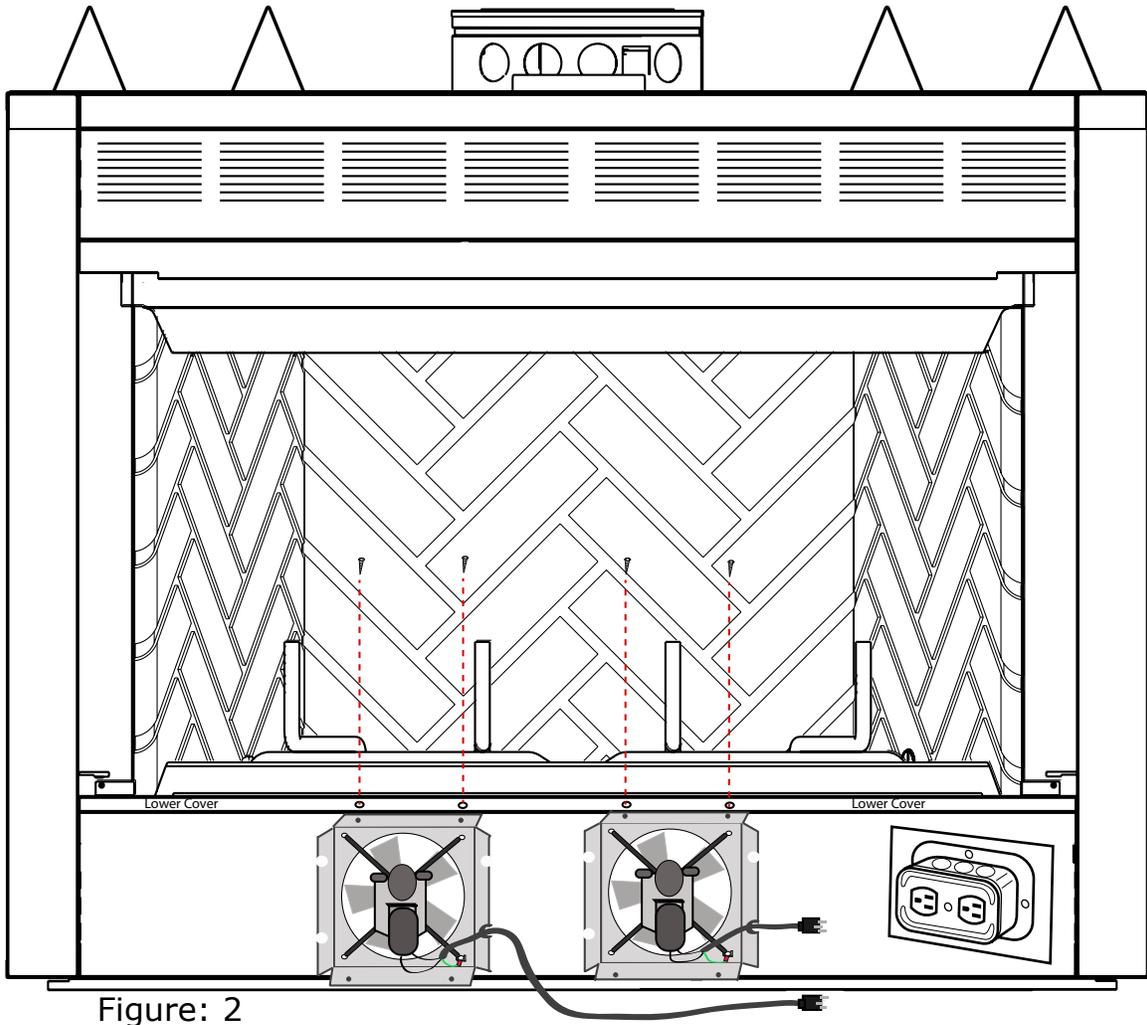

Figure: 2
Step 2: Remove the seven screws and lift the lower cover from the fireplace. (Figure: 2 & 3) Locate which side of the fireplace the junction box is on (right side is shown in Figure: 2)
Depending which side the wires are going, (Bottom Right screw in Figures 2 & 5) loosen a bottom screw and slide the fork terminal attached to green wire under the screw head and re-tighten.
While positioning the Lower Cover back into place and Fan assemblies into position, plug the fan power cords into the Junction Box / Power Outlet. (Figure: 2)
Each Power cord should be placed through the hole on the side of fan bracket with plastic bushing inserted into cut-out to protect power cord. •Only use Lower holes. (Figure: 2)